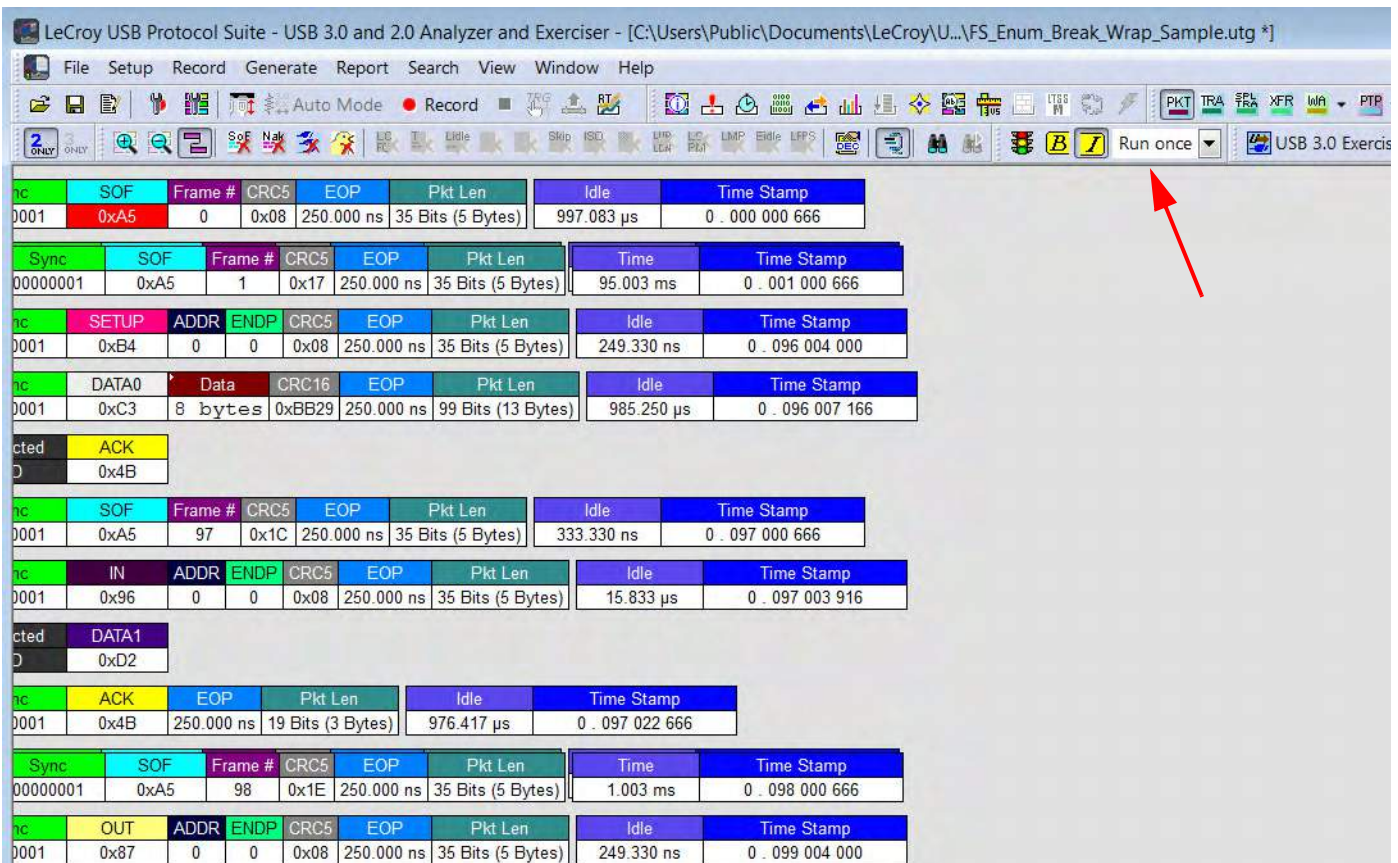

Figure 11.17: Traffic Generation File
4. Click **Open**. The file opens (see Figure 11.17 on page 500.)